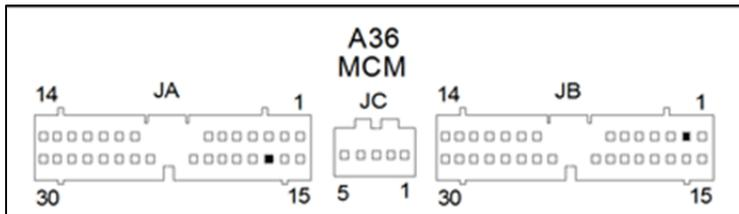
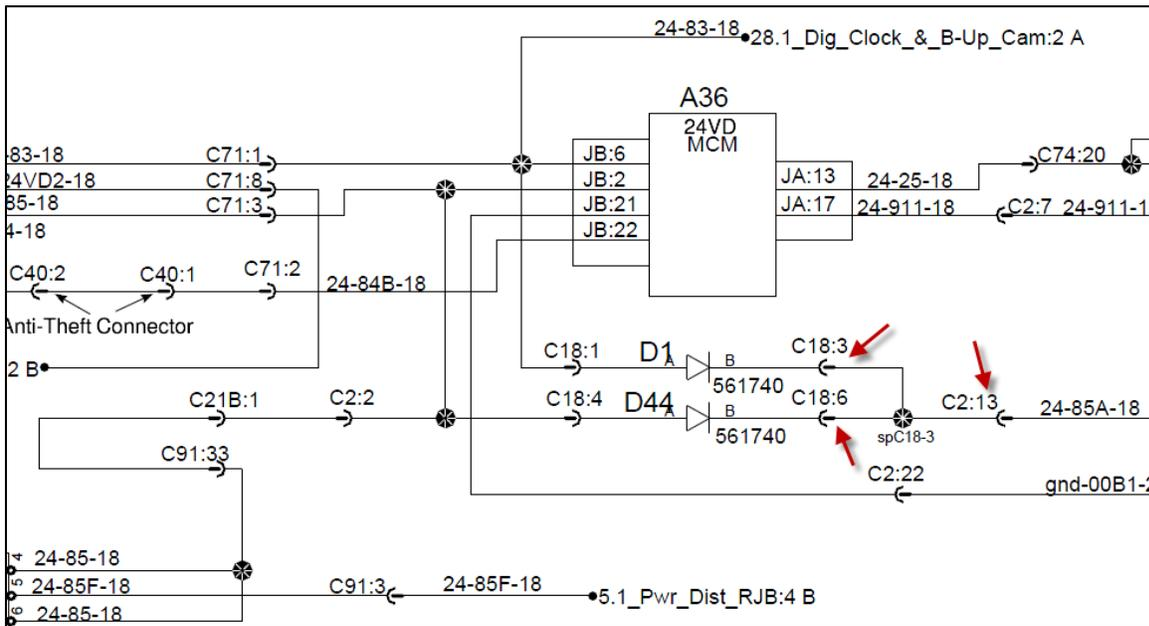

FIGURE 15: A36 PINOUT
FIGURE 22: C18 & C2 WIRING REMOVAL IN FRONT ELECTRICAL COMPARTMENT
17. Disconnect wire 911 JA: 17 of module A36 (Figure 15). Remove terminal using extractor **683766**. Cut terminal and insulate with a heat-shrinkable sleeve. (Figure 22)